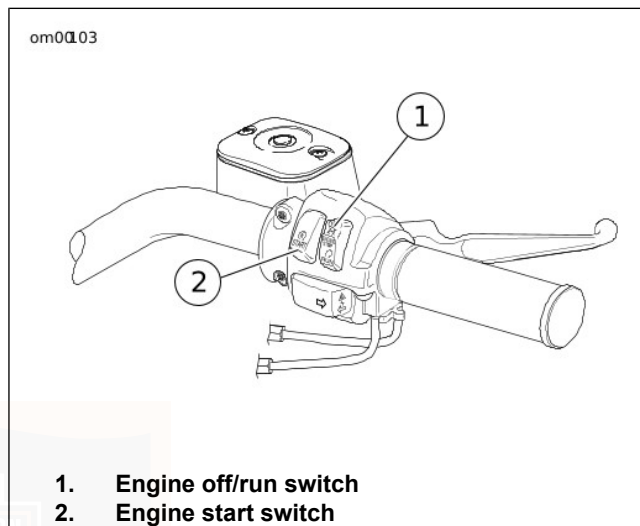

Figure 42. Right Handlebar Controls
2. See Figure 42. Turn the off/run switch to RUN position.